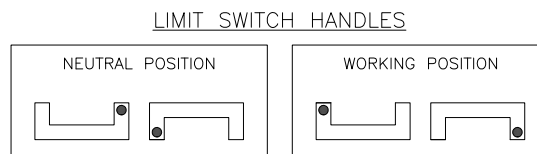

Fig. 9
- Open the covers of the limit switches and set the top and bottom limit handles to the neutral position. (Fig. 9).